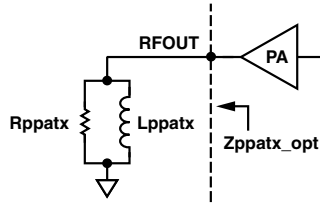

Figure 4. Definition of the Optimum PA Load Impedance and Lumped-Element Model
**Table 7. Optimum PA Load Impedance (Figure 4) for  $P_O = 10$  dBm at  $V_{DD} = 3.0$  V**
Table 7 lists optimum PA load impedance values for each frequency band, which satisfies the condition stated earlier. Figure 4 illustrates the definition of the optimum load impedance and a lumped-element equivalent circuit. The component values that represent the optimum load impedance are listed in Table 8.
**Table 8. Lumped Element Model of Optimum PA Load Impedance (Figure 4)**